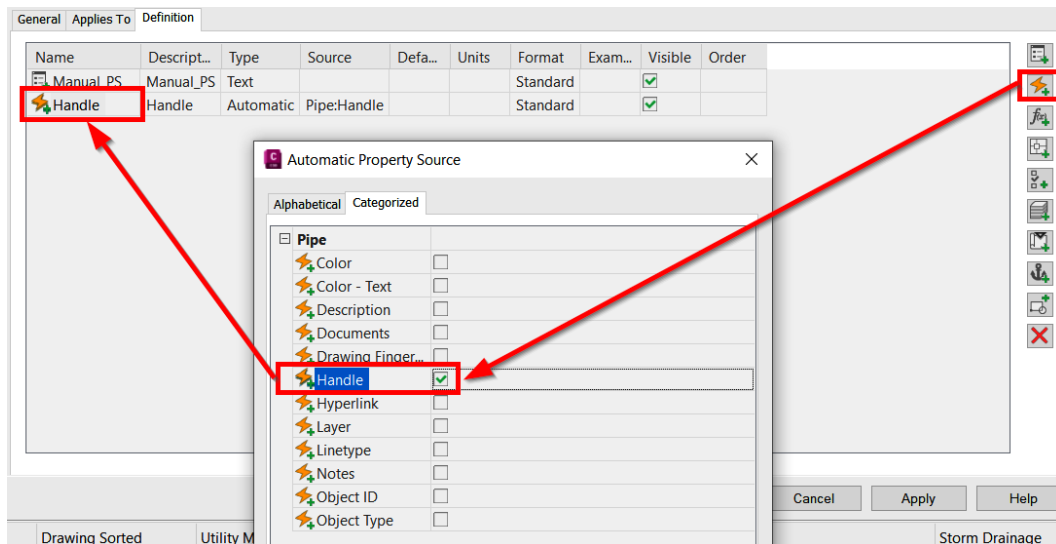

Figure 10.11 – Create automatic property set
- Next, we'll click on the **Add Automatic Property Definition** icon, check the box for **Handle** listed in the **Pipe** section, and click on **OK**. The **Handle** automatic property definition will be added to our **Storm Drainage** property set display, as shown in *Figure 10.11*: